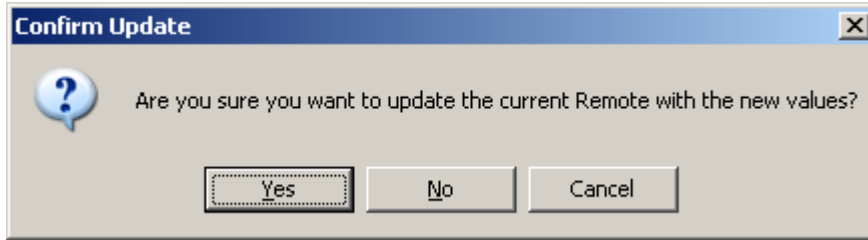

Figure 29 – CNI Configuration – Confirm Programming
7. Upon entering the information, click the <Program> button to program the CNI with the settings. You will be prompted to confirm the operation as in Figure 29. Once programmed, you can now test the connection between the CNI and InvisiConnect™.